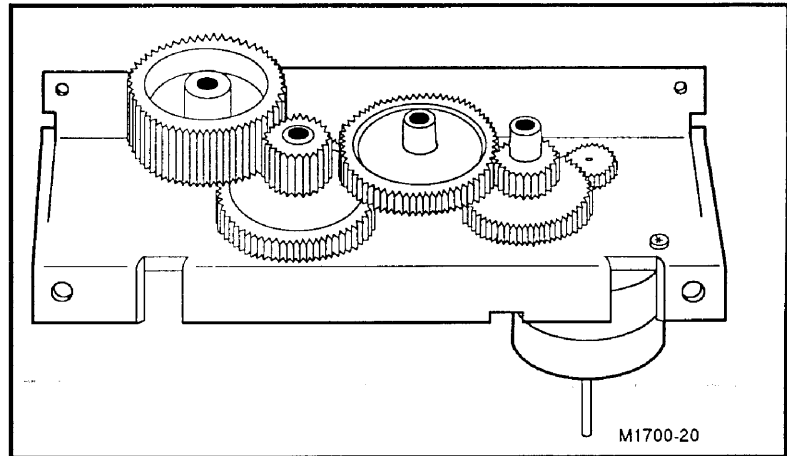

Figure 7-9. The Printer Drive Gears.
1. If necessary, reinstall the gears. The gears are arranged on the shafts in the gear housing as shown in Figure 7-9. Each gear has a number molded into it. That number corresponds to a number molded into the gear housing next to the appropriate shaft. Insert gears with molded numbers facing up.